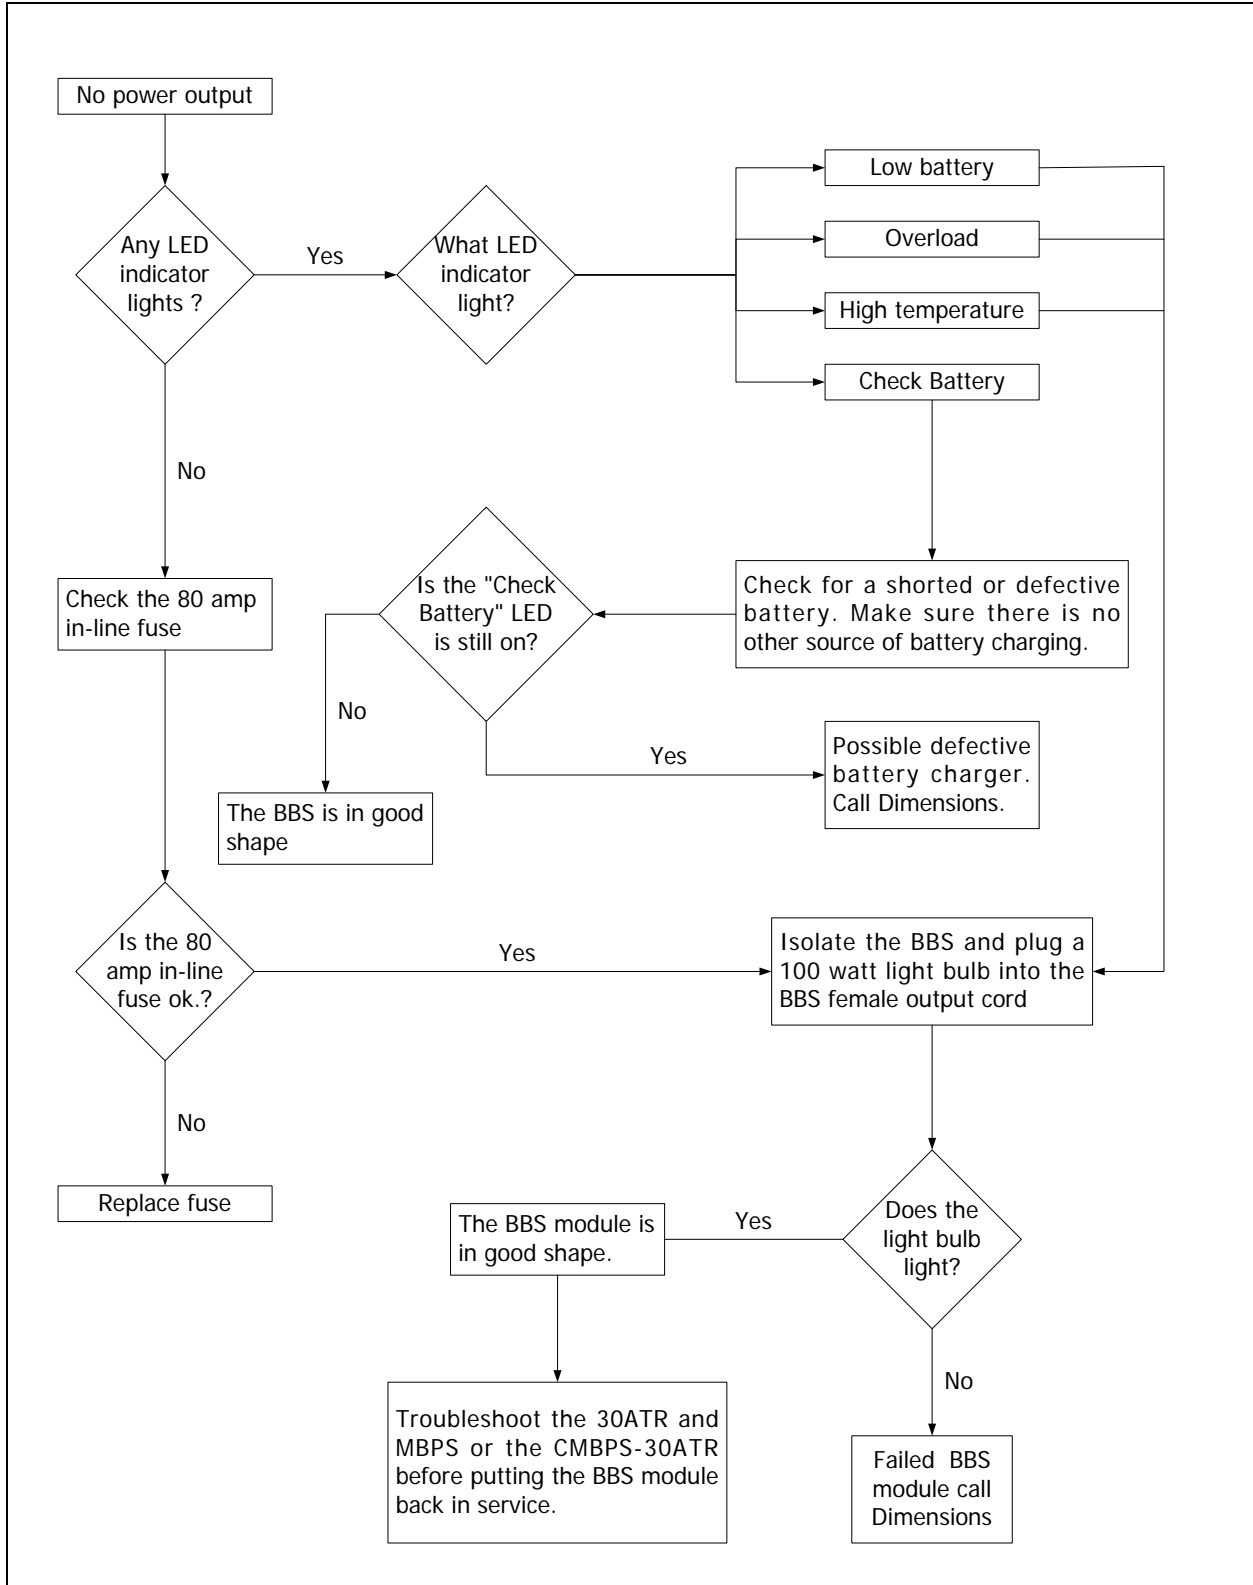

FIGURE 26: Troubleshooting Flow chart
- Observe the LEDs on the BBS front control panel. Follow troubleshooting Table 5 and Troubleshooting Flowchart Figure 26.